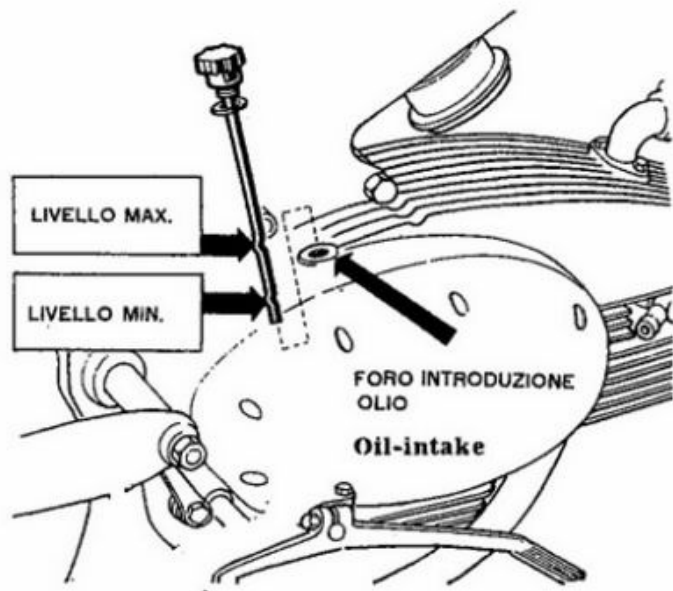

Fig. 4
- Oil level as shown on Fig. 4.